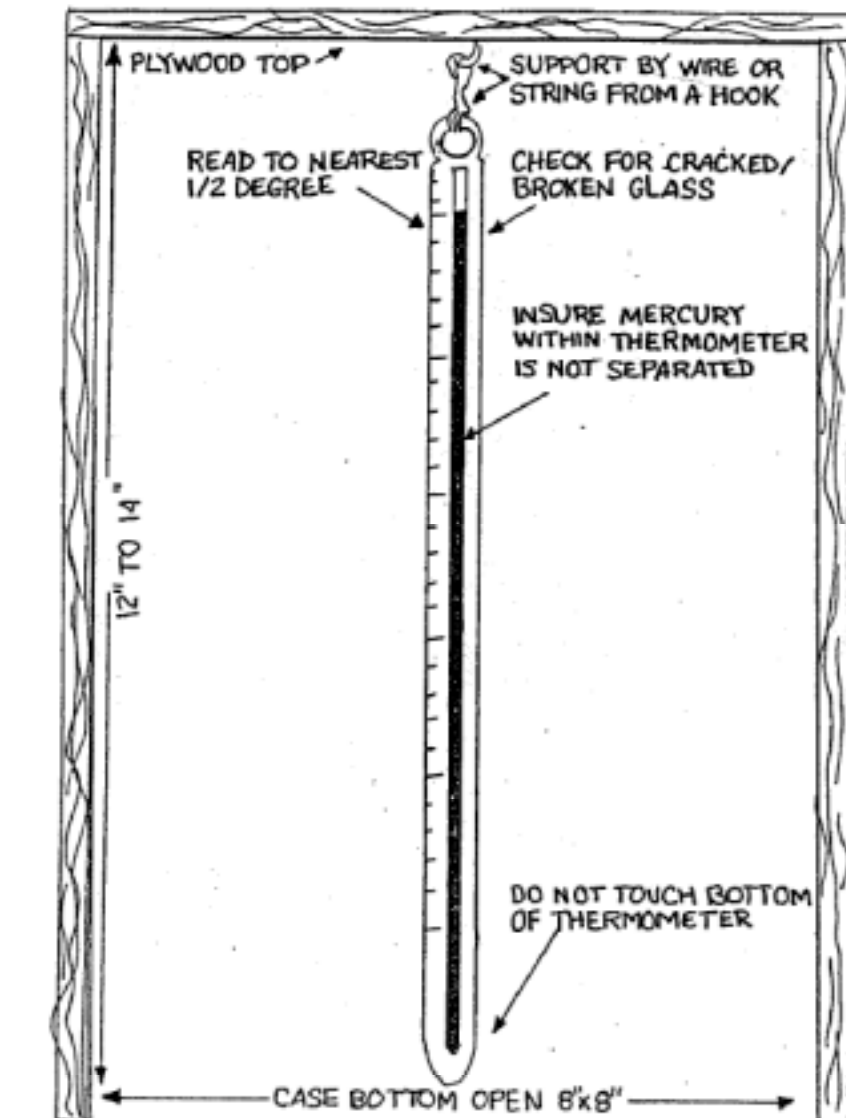

Figure 2.--Shade Dry Bulb Thermometer.
c. See figure 2 of this enclosure.